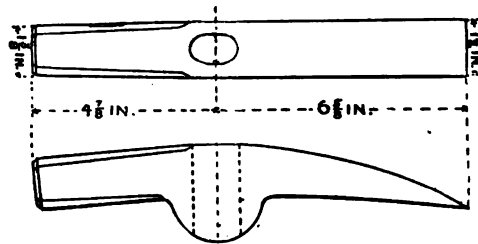

FIG. 4.—TRACK WALKER'S HAMMER—Weight 4 lbs.
**Track-Walker's Hammer** (Fig. 4.) is made of 1 3-4 in. square iron drawn out to octagonal face at one end and to an adze edge 1 1-2 in. wide at the other, making total length 11 1-2 in. Both face and bit are of steel, eye oval 1 1-4 in.  $\times$  7-8 in. center being 4 7-8 in. from face. Weight 4 lbs.; about ten can be made in one day.